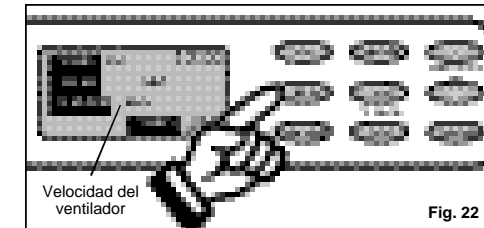

Fig. 22
3) Press the **FAN** key to select the desired fan speed setting (**High-Low**). Your selection will be displayed in the **LCD** window. Each depression of the fan key will alternate between the different fan speed settings. *Fig. 22*.